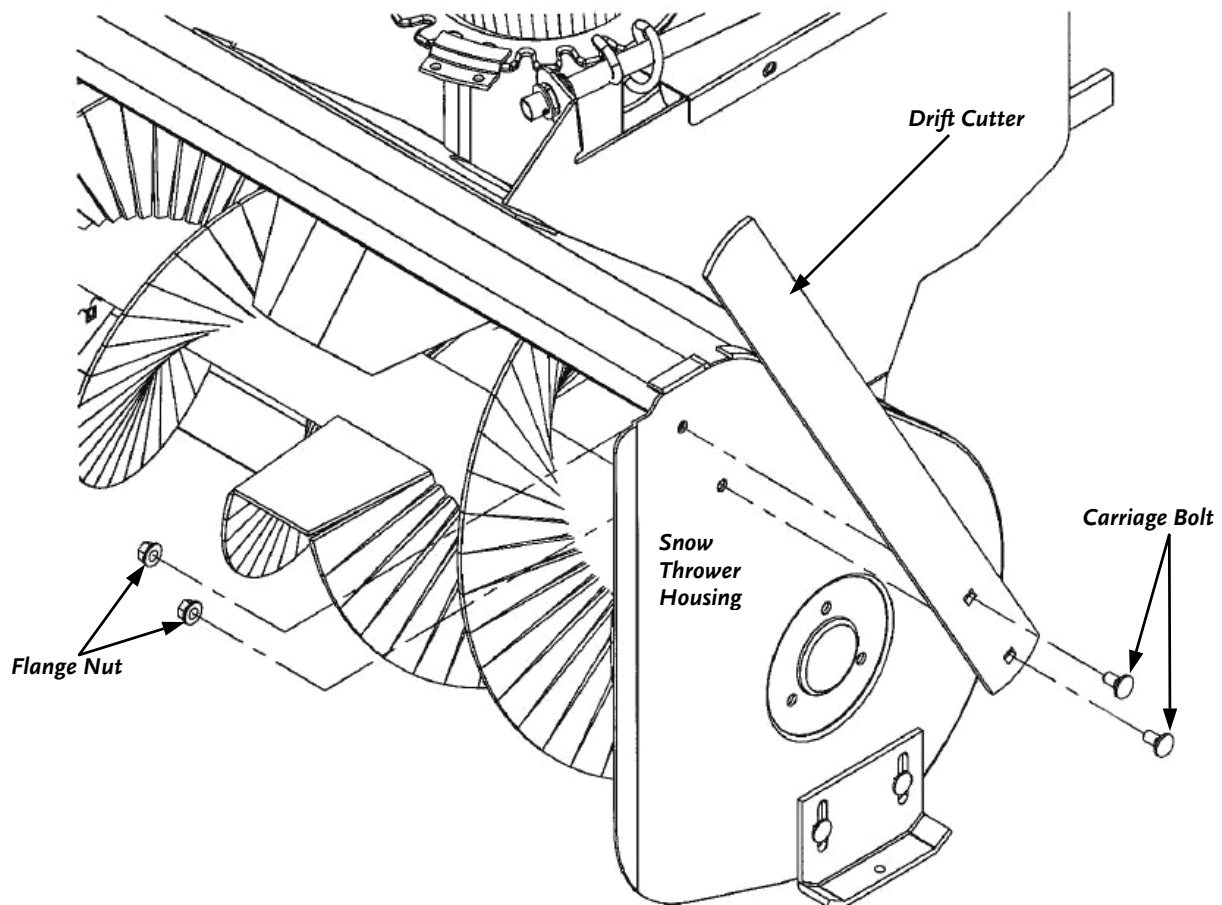

Figure 11
1. Align the two (2) square holes in the Drift Cutter with the two (2) round holes in the side of the Snow Thrower Housing (**Figure 11**).
2. Insert two (2) 5/16" x 5/8" Carriage Bolts, from the outside, through the Drift Cutter and the Snow Thrower Housing (**Figure 11**).
3. Secure the Bolts in place with two (2) 5/16" Flange Nuts and tighten using a 1/2" Wrench or Socket (**Figure 11**).